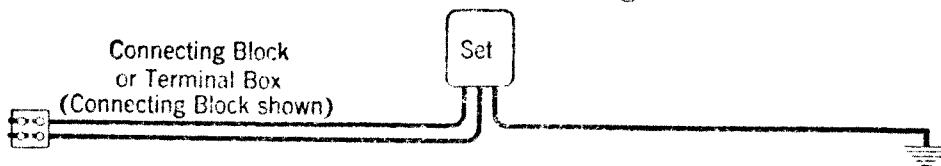

Fig. 7.
5.10 **Wiring to Connecting Block or Terminal Box without Ground Connection When Station and Ground Wire Are Not Run in Same Direction:** Use a two-post connecting block. Run pair wire from set to block and single wire from set to ground connection as shown in Fig. 7.